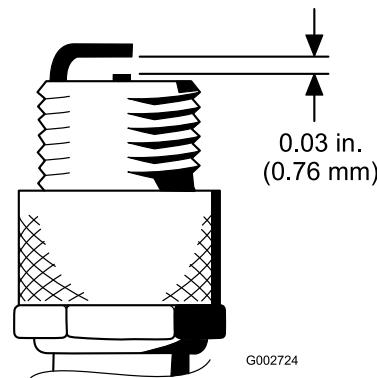

Figure 44
- Set the air gap between the center and side of the electrodes at 0.76 mm (0.030 inch) (Figure 44).